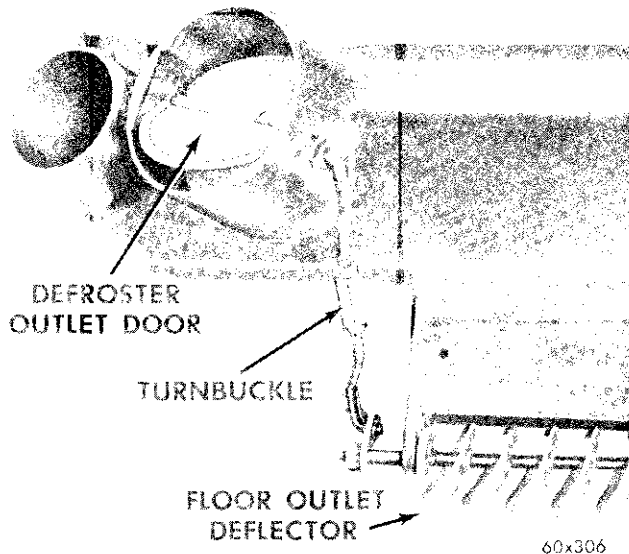

Fig. 36—Defroster Outlet Door Linkage
**Defroster Outlet Door Linkage.** On De Soto, a turnbuckle adjustment is provided in the linkage between the floor outlet deflector and the defroster outlet door (Fig. 36). Push the "OFF" button. The floor outlet deflector will be moved into the "up" position by its actuator. The bell crank at the left end of the deflector will move defroster door to the closed position. If the defroster door does not close fully, disconnect the link at the door bell crank. Hold the defroster door fully closed and adjust the turnbuckle until the link will slip into the hole in the defroster door bell crank. Reconnect the link.